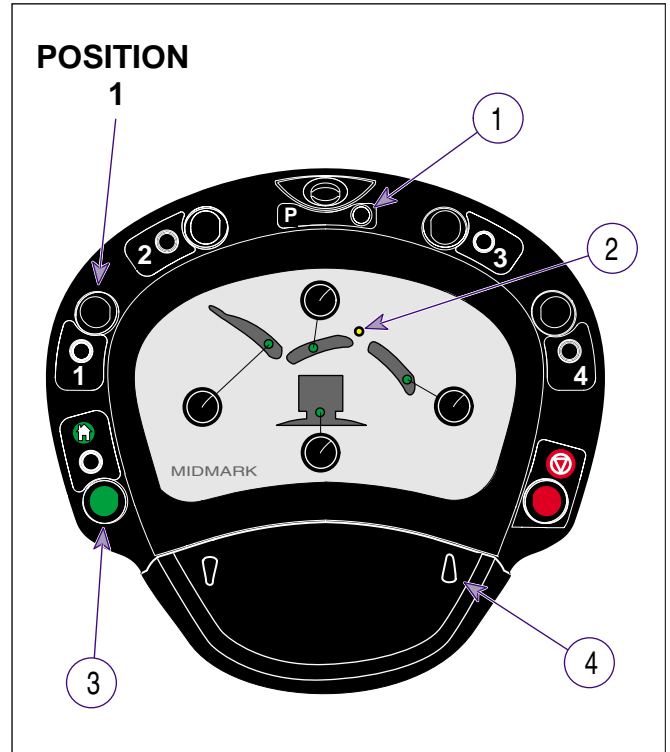

Figure 4-2. PC Control Board Calibration
- (1) Unplug table power cord from outlet receptacle for at least ten seconds.
- (2) Depress and hold the Position "1" button on foot/hand control (see Figure 4-2) while simultaneously plugging the table power cord into the outlet receptacle.
Observe. The PROGRAM MODE lamp (1, Figure 4-2) and the FOOT REST EXTENSION lamp (2) will illuminate for approximately three seconds and will then go out.